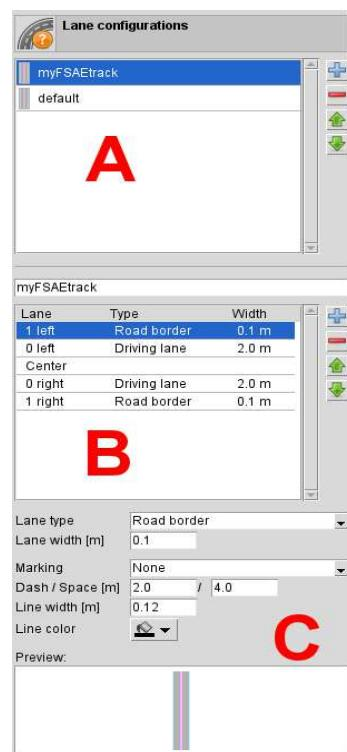

Figure 3.8: Road model to fit FSAE track rules
Before creating a new road segment, one of these lane configurations can be selected and the road segment will have this lane definition. However, selection of the lane type has to be done before generation of the road segment. If a lane configuration has not been selected, then the top most lane definition is automatically selected to create the road segment. The different lane configurations that are created by the user is saved as a part of the Project folder. Hence, if a new project folder is created, the lane configurations have to be created anew. Later, we'll learn how to change the width to single segments. In Figure 3.8 you see the lane configuration dialog.
- Open the dialog via "Lane configuration" . Press the - button (Figure 3.8 - section A) on the right side to add a new configuration and rename it to "myFSAEtrack".
- Press the - button (Figure 3.8 - section B) to add five lanes in total (Two left, One center, Two right).
- Remove the marking in the center of the road by selecting the "center" - lane and set "none" in the dropdown menu next to *Marking* (Figure 3.8 - section C).